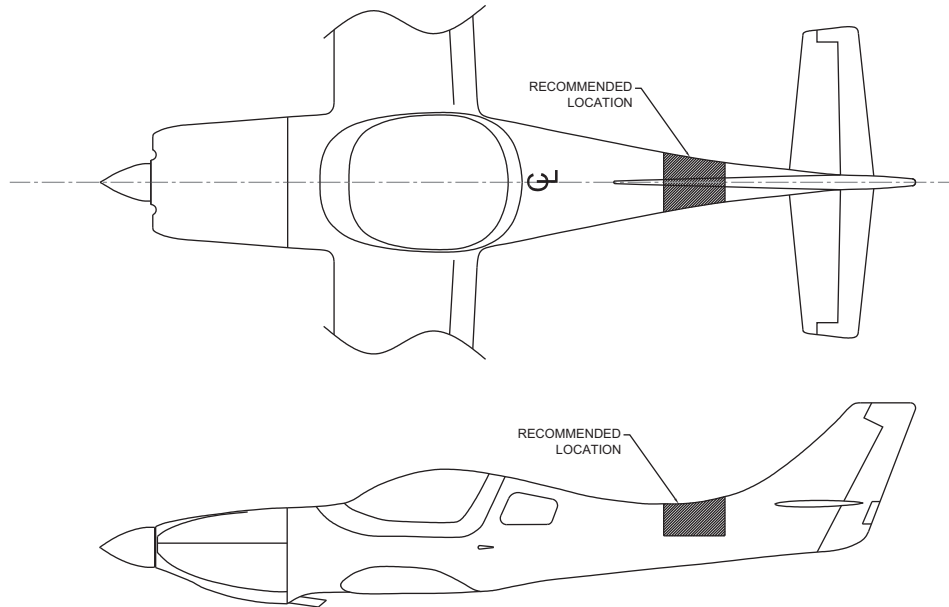

Figure B-19 Lancair Legacy Magnetometer Location
1. A possible mounting location is in the upper section of the fuselage cavity, just forward of the vertical tail section. The recommended location is shown in Figure B-19.